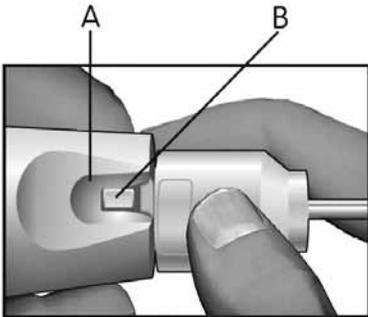

Figure 5. Key slot (A) and key (B)
2. To insert a blade, align the key slot (A) on the handpiece and the key (B) on the blade (Figure 5). Insert the blade into the handpiece so that the key goes into the slot. Push the key in proximally as far as possible for a positive lock.